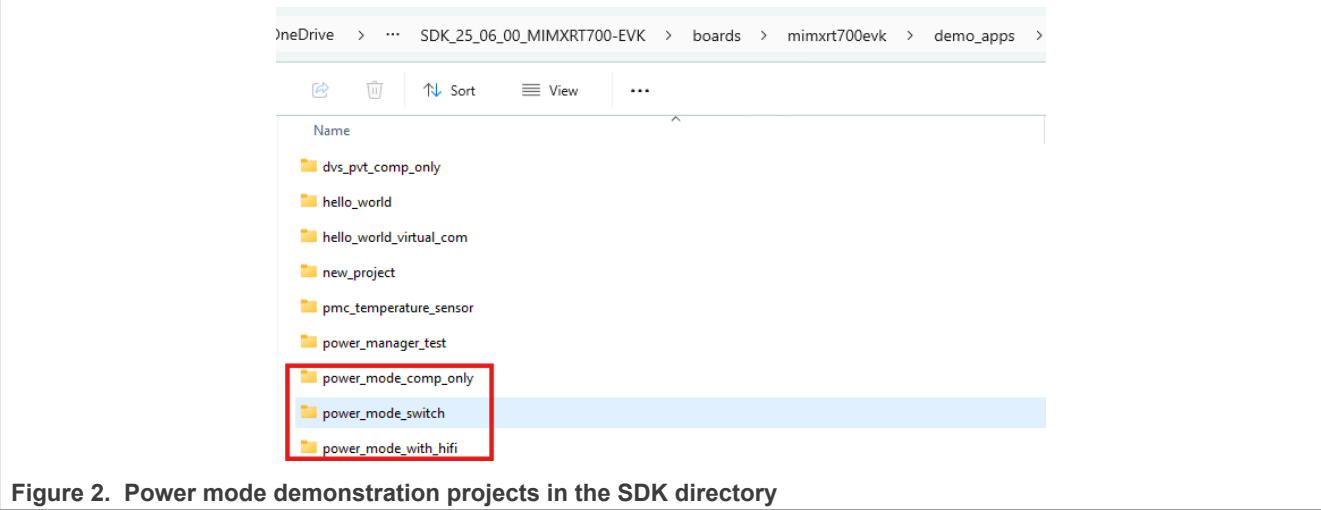

Figure 2. Power mode demonstration projects in the SDK directory
2. As shown in Figure 2, locate the power mode demonstration projects in the SDK directory. The three relevant projects are: